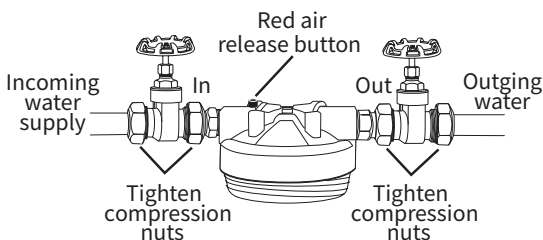

Figure 4
7. Fit filter head and shut-off valves onto pipe. Make sure the “IN” port with red air release button is connected to incoming water supply line. Tighten compression nuts on both sides of valves (see Figure 4). (Four locations.) If using mounting bracket, attach bracket to the wall using appropriate anchors or screws (not included) after head is in place and tightened to plumbing.